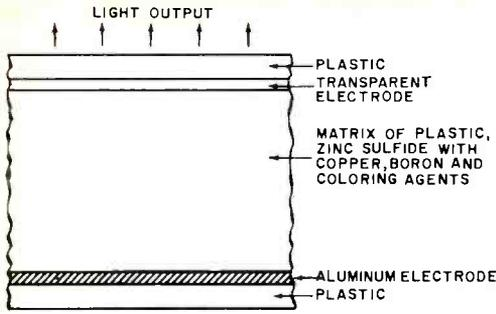

Fig. 1. This enlarged view of a thin electroluminescent panel shows how "sandwich" is created.
**Theory of Circuit Design.** In the low-band version of the All American (Fig. 1), the 75-ohm antenna line is connected to
All of this results from a phenomenon whereby light is emitted from a thin layer of crystalline phosphor (usually zinc sulfide) situated in a "capacitor sandwich" as shown in Fig. 1. This particular phosphor emits a green light when stimulated and also makes an excellent host crystal for a number of color-changing additives. You have probably seen zinc sulfide (ZnS) a number of times since it is the basic phosphor used to coat the screens of oscilloscope CRT's. (In this case, the phosphor is excited by high-speed electrons from the CRT gun.)
As shown in Fig. 1, the phosphor compound is sandwiched between a thin aluminum foil and a transparent, although conductive, electrode. The aluminum also provides some reflection, increasing the light output, while the transparent electrode permits the light to escape. The entire EL panel is then sealed within a moisture-proof plastic which also provides electrical isolation. The overall assembly is approximately  $\frac{1}{32}$ " thick with a 1- to 5-mil separation between the two electrodes.